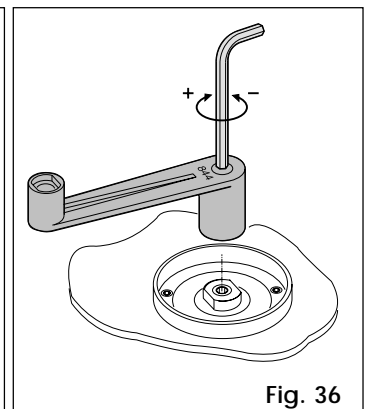

Fig. 36
- 3) Keep the driving shaft in position by means of the supplied lever, and adjust the clutch as shown in Fig. 36. To increase torque, turn the screw clockwise. To decrease torque, turn the screw counterclockwise.